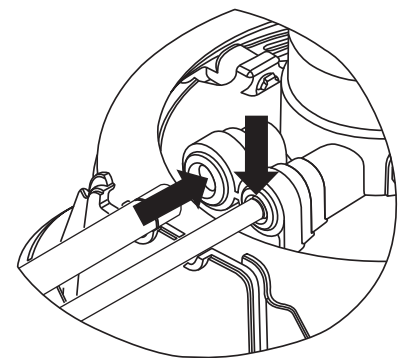

Fig. 5
- b. **Insert** the end of the BLUE tube attached to the $\frac{3}{8}$ " x $\frac{1}{4}$ " x $\frac{5}{16}$ " Large T Connector, h, (Fig. 1) into the small port on the Bracket (Fig. 5), until it meets the line or the line disappears.